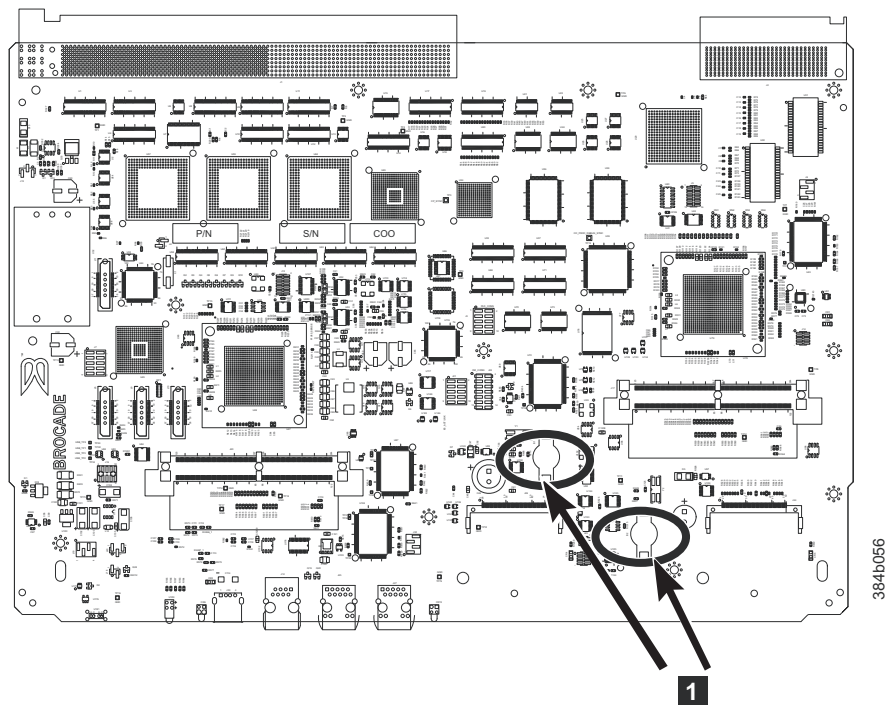

Figure 49. Battery locations on the SAN768B
6. Go to the following locations and remove the two BR1225 batteries from each of the PCBAs (see **1** in Figure 49):